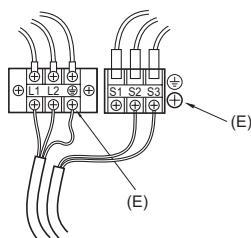

Fig. 6-2
6.1. Outdoor unit (Fig. 6-1, Fig. 6-2)
- (1) Remove the service panel.
- (2) Wire the cables referring to the Fig. 6-1 and the Fig. 6-2.